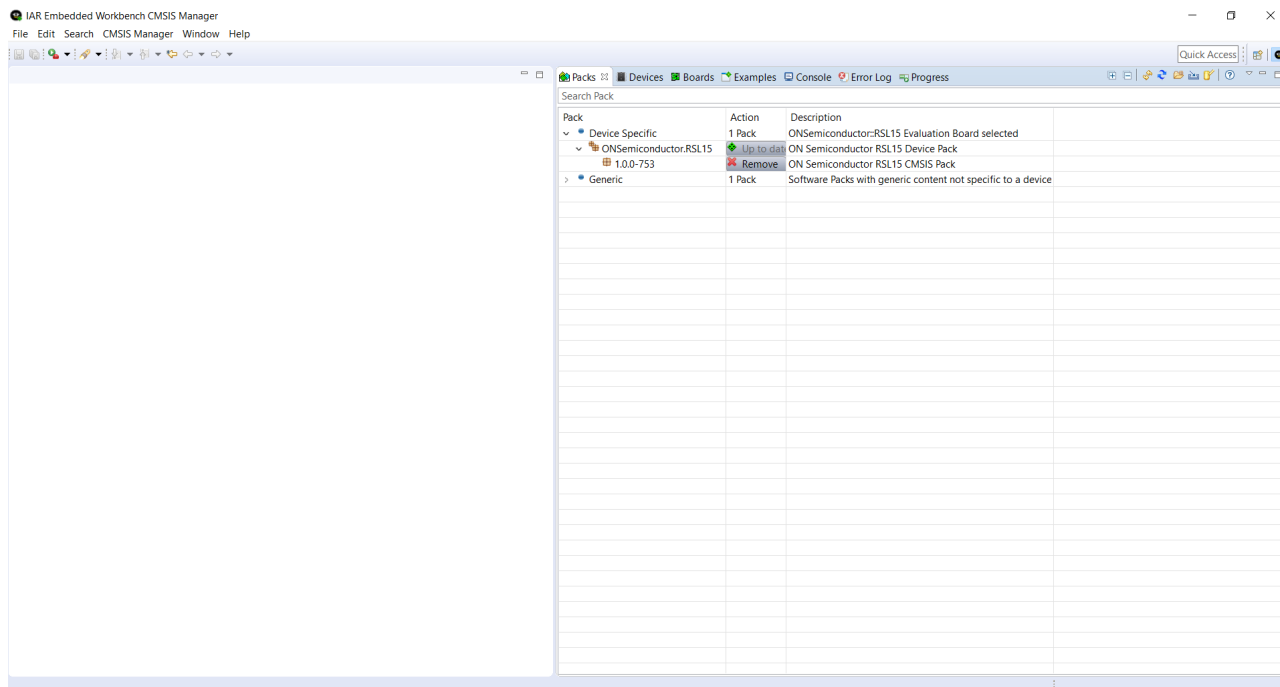

Figure 36. IAR Embedded Workbench CMSIS Manager after RSL15 CMSIS-Pack is Installed
- In the **Devices** tab, expand **All Devices > ON Semiconductor > RSL15 Series**, and select **RSL15** from the list. The RSL15 CMSIS-Pack now appears in the list of installed packs in the **Packs** tab. Expanding **ON Semiconductor.RSL15** makes the **Pack Properties** tab display the details of the RSL15 CMSIS-Pack. The figure "IAR Embedded Workbench CMSIS Manager after RSL15 CMSIS-Pack is Installed" (Figure 36) illustrates what the **Pack Manager** perspective looks like after installation.